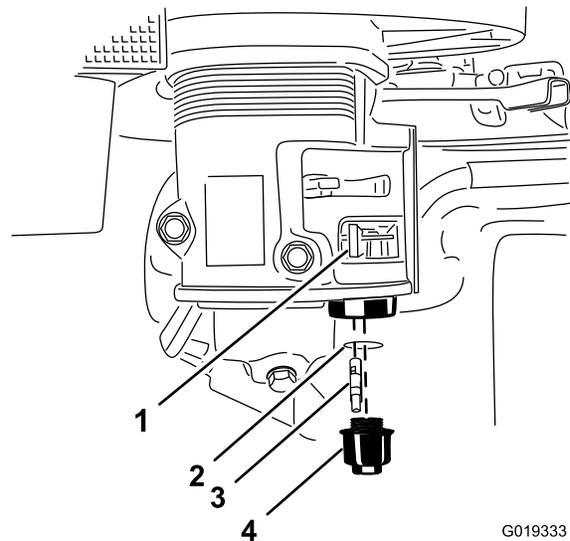

Figure 62
3. Move the lever of the fuel valve to the OFF position, all the way to the left (Figure 62).
4. Unscrew the sediment cup (Figure 62).
5. Remove and retain the fuel filter and O-ring (Figure 62).
8. Install the fuel filter in the bottom of the carburetor (Figure 62).